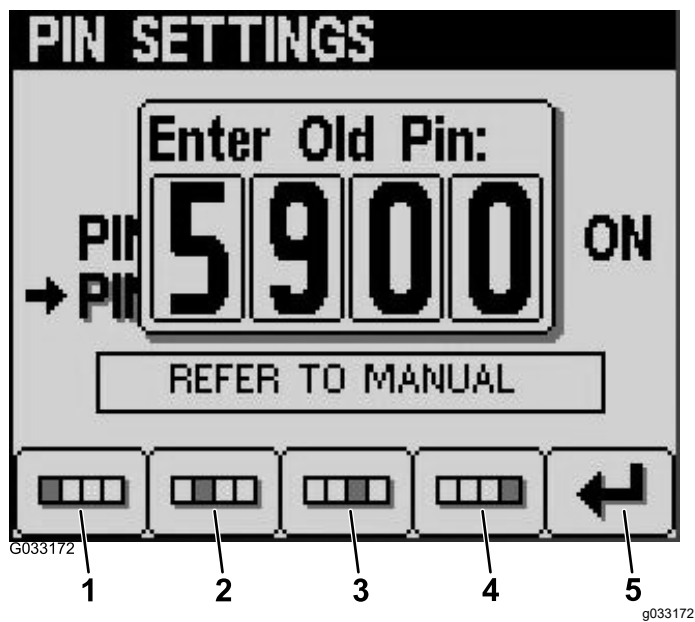

Figure 15
6. Enter your old PIN using buttons 1 to 4 and press button 5 when you complete the PIN (Figure 15).